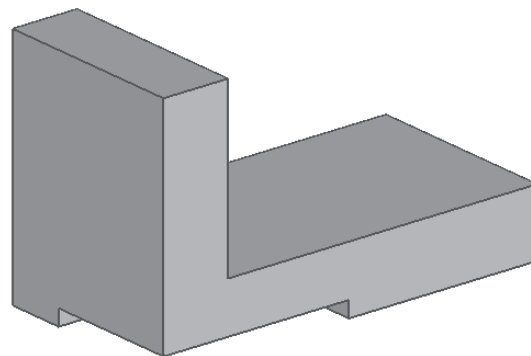

Figure 4-71 Model with the cut feature
6. Hide the sketch. The model with the cut feature is shown in Figure 4-71.